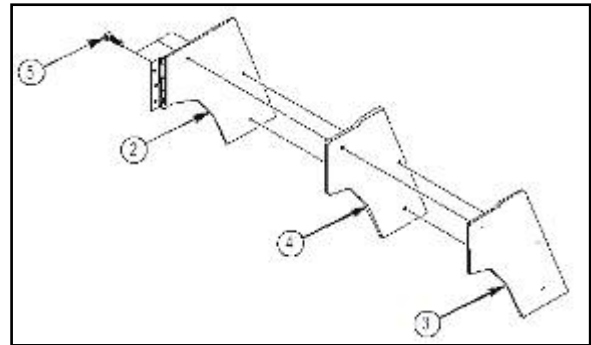

Figure 33b
11. Apply 8030-01-025-1692 sealing compound to threads of three 4397000-012 capscrews (5). Refer to figure 33b.
12. Install fuel door aluminum overlay (3) and 6435016-01M1 or 6435016-200M1 fuel door panel IED overlay (4) on fuel door armor (2) with three 4397000-012 capscrews (5) as shown in figure 33b. Tighten capscrews (5) to 10 lb-ft (13.6 N-m).